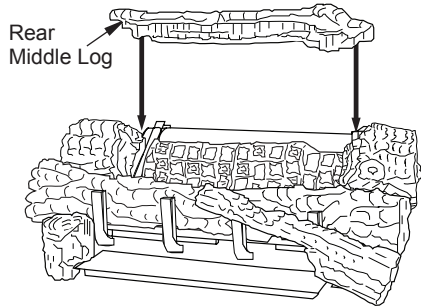

Figure 44 - Installing Rear Middle Log
8. The rear middle log should fit between the ramp log and the rear burner. The left and right middle logs have recessed areas for the rear middle log to sit into (See Figure 44). Be careful not to push the rear burner out of position while installing this log.